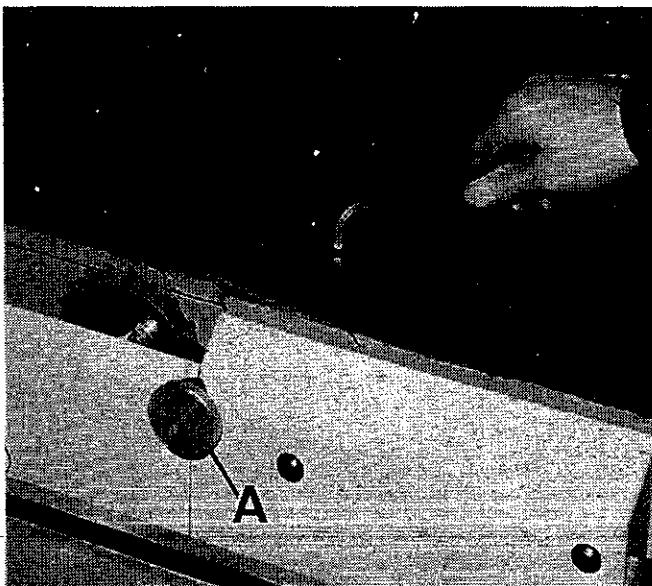

FIG.34.
3. Lateral adjustment to scoring blade is by knurled handwheel "A", FIG.34.
4. Locate 8mm allenkey (supplied) in vertical adjustment screw as shown in FIG.34, and adjust scoring saw vertically. Correct vertical adjustment is attained when the scoring saw scores the full underside length of panel. NOTE: Some panels may be badly bowed in which case the scoring saw should be vertically adjusted to suit.